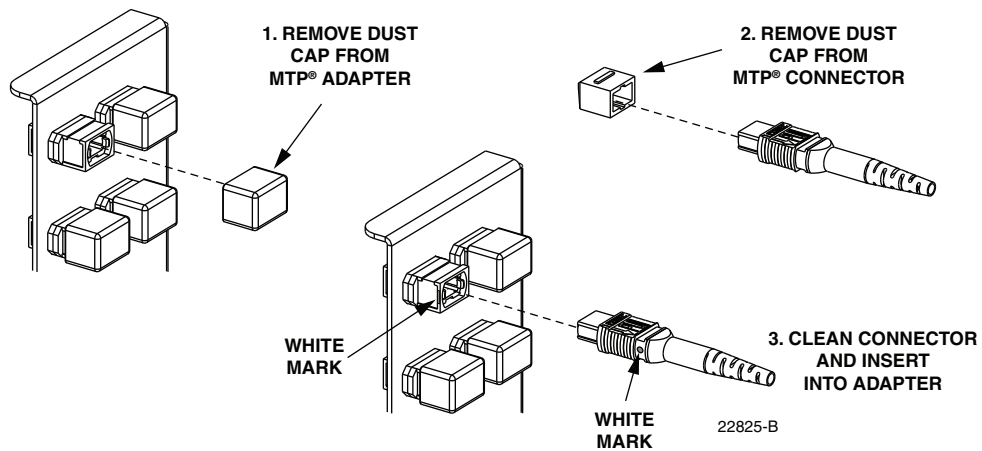

Figure 61. Connecting MTP Connector to MTP Adapter
13. Remove the dust caps from the bulkhead adapters and the cable MTP® connectors as shown in Figure 61.